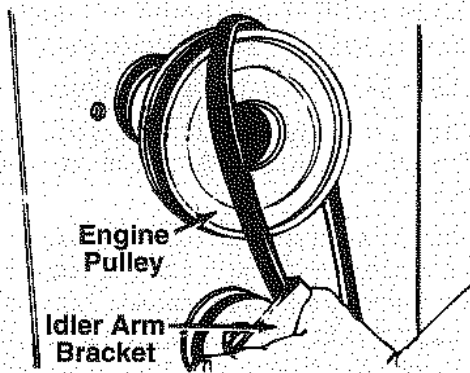

FIGURE 9.
7. Make certain belt is routed to the inside of the weld pin on the channel assembly as shown in loose parts illustration on page 4. Also be certain the belt is routed between idler pulley and the tab on the idler arm bracket. See figure 9.